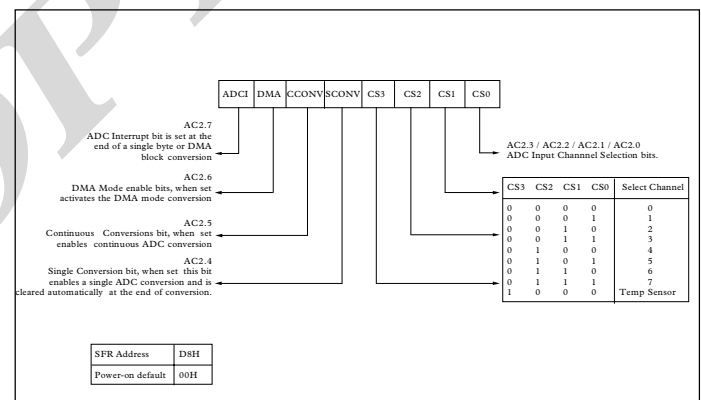

Figure 10. ADCCON2 SFR bit designations
- ADCCON2** - Controls channel selection and conversion modes as detailed in Figure 10.